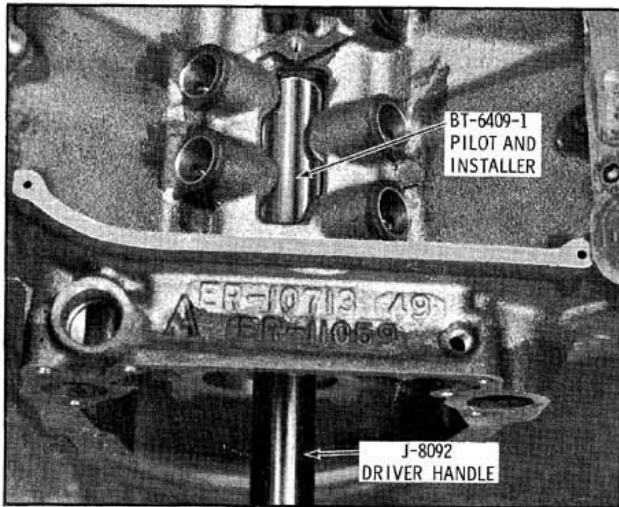

Fig. 3-98 Installing No. 1 Cam Bearing
5. Install Tool BT-6409-1 on Handle J-8092 and place #1 bearing on installer. Drive bearing in until white line on Installer BT-6409-1 is flush with front face of block. (Fig. 3-98)